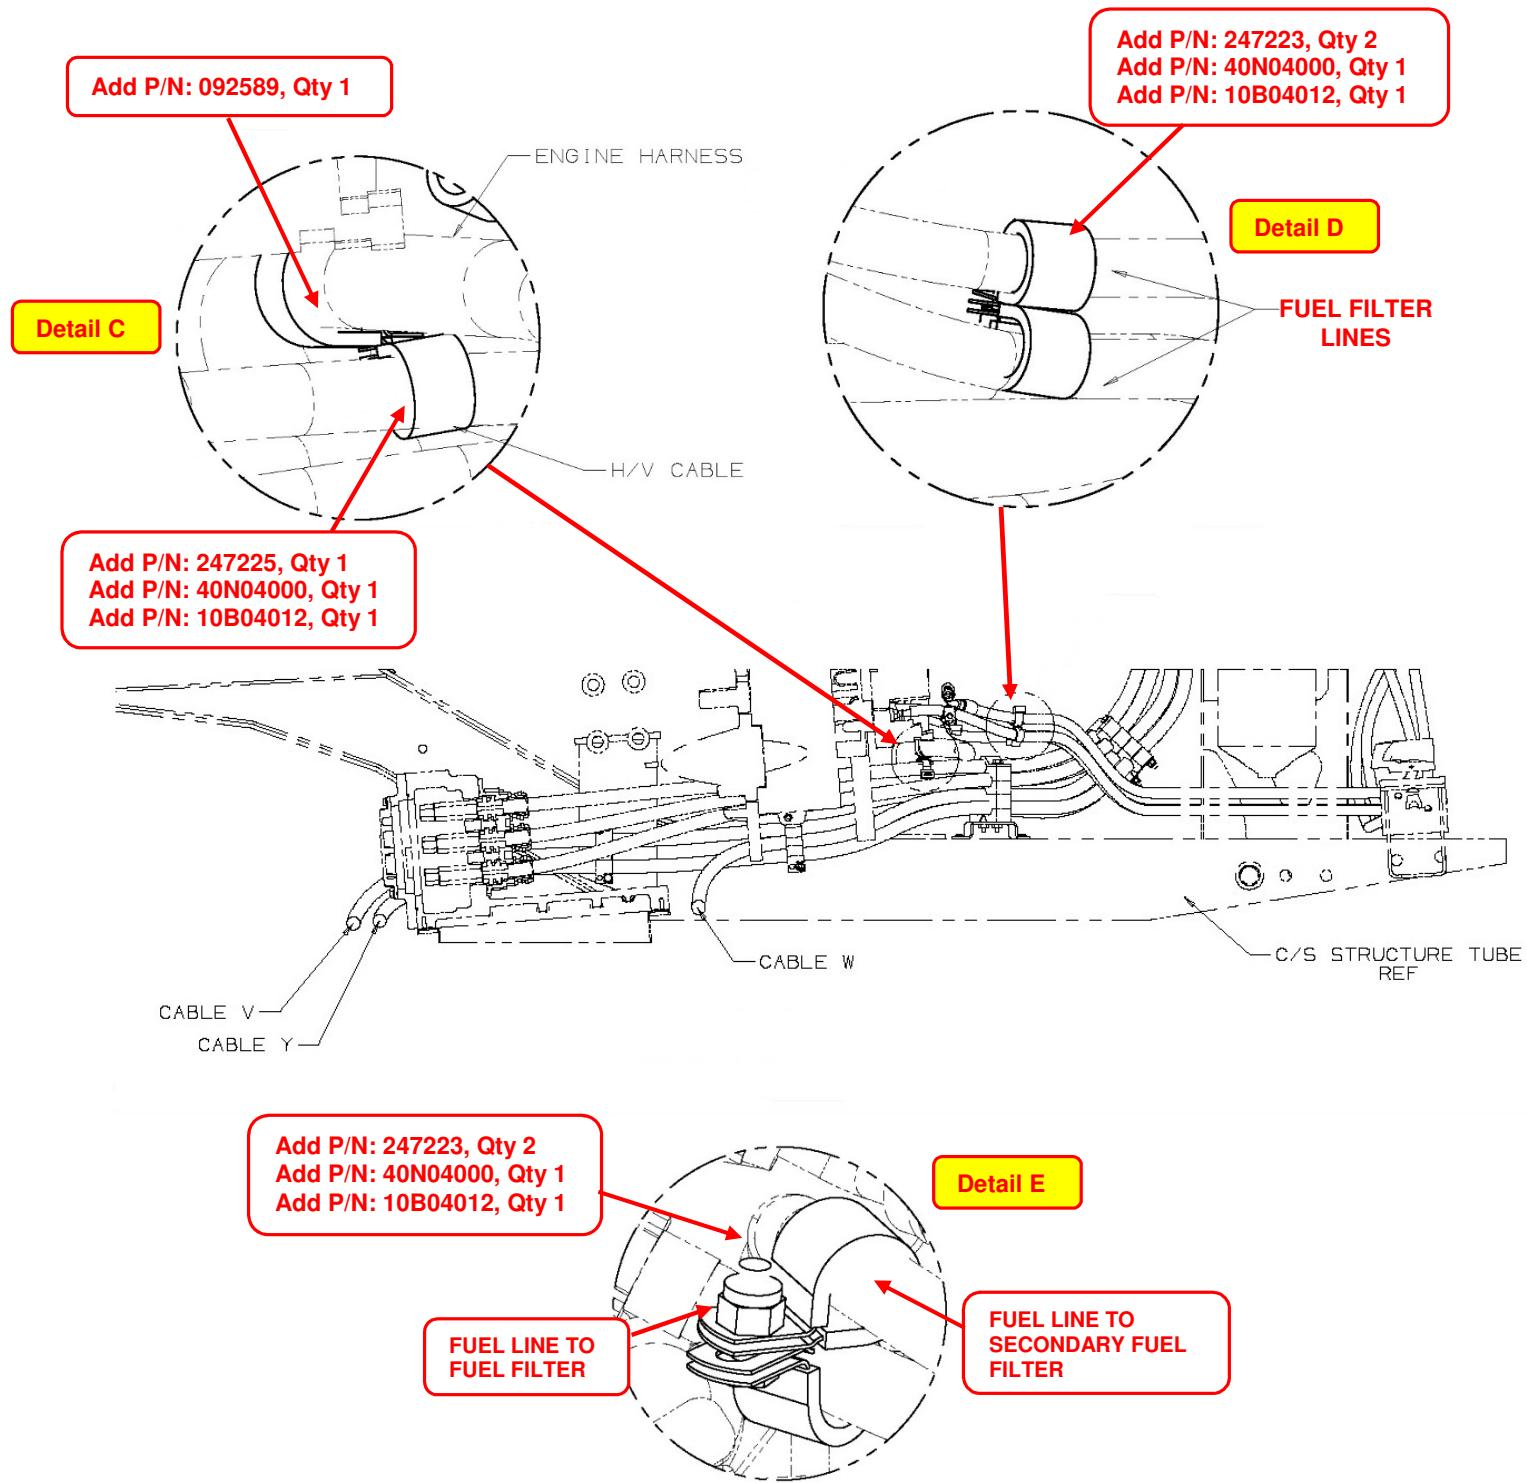

Figure 5: P-Clamp Mounting Details
- 4. Add Clamp, P/N: 247225, Qty 1, Clamp, P/N: 092589, Qty 1, Bolt, P/N: 10B04012, Qty 1 and Nut, P/N: 40N04000, Qty 1 to separate between rubbing engine harness/cable/lines. Refer to Figure 5, Detail C.
- 5. Add Clamp, P/N: 247223, Qty 2, Bolt, P/N: 10B04012, Qty 1 and Nut, P/N: 40N04000, Qty 1 to separate between rubbing engine harness/cable/lines. Refer to Figure 5, Detail D.
- 6. Add Clamp, P/N: 247223, Qty 2, Bolt, P/N: 10B04012, Qty 1 and Nut, P/N: 40N04000, Qty 1 to separate between rubbing engine harness/cable/lines. Refer to Figure 5, Detail E.